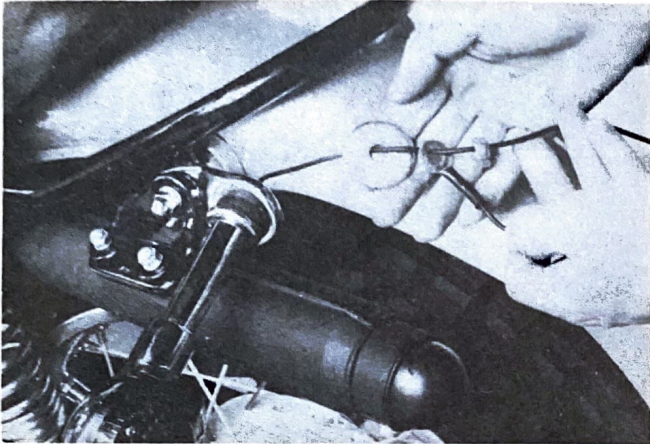

Fig. 33
- c. When installing the flasher lamp, secure the negative lead wire between the special washer and the nut. (Fig. 33)